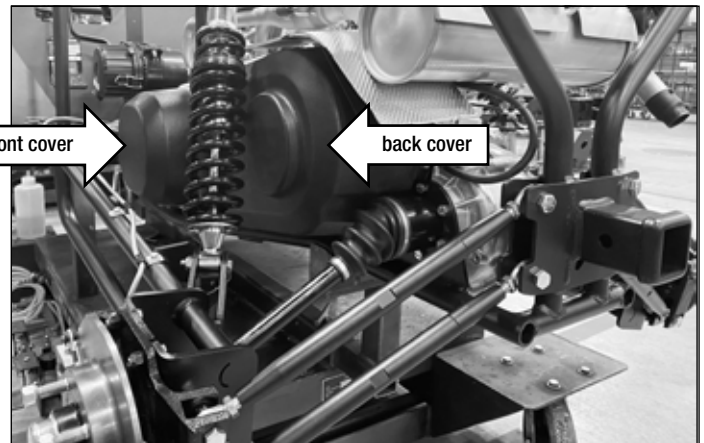

figure 4.4 (drive belt cover)
5. Reinstall the belt guards as shown in figure 4.4.